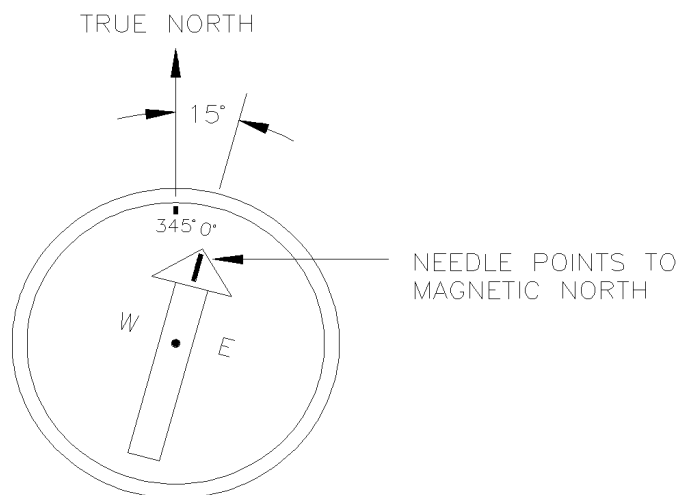
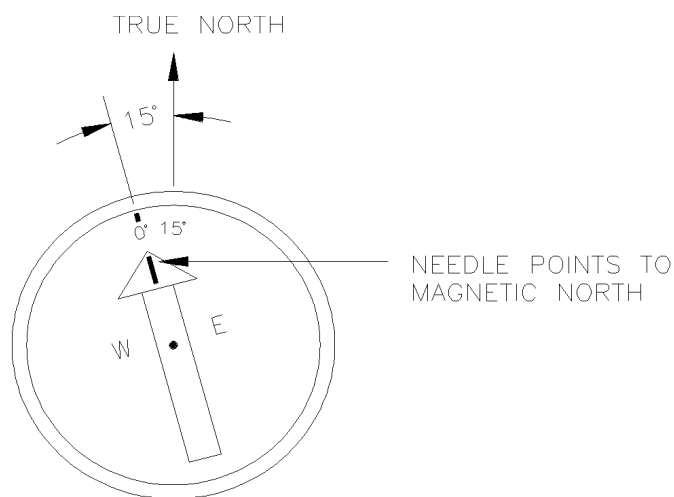

FIGURE A-2. A declination angle east of true north (positive) is subtracted from 360 (0) degrees to find true north
FIGURE A-3. A declination angle west of true north (negative) is subtracted from 0 (360) degrees to find true north
Declination angles are always subtracted from the compass reading to find True North. A declination angle East of True North is reported as positive a value and is subtracted from 360 (0) degrees to find True North as shown FIGURE A-2. A declination angle West of True North is reported as a negative value and is also subtracted from 0 (360) degrees to find True North as shown in FIGURE A-3. Note that when a negative number is subtracted from a positive number, the resulting arithmetic operation is addition.